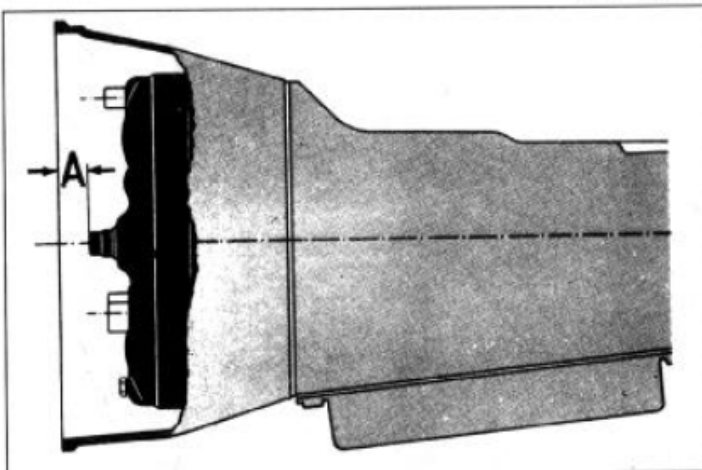

Fig. 3 With torque converter correctly fitted, dimension A should be 10.0 mm (0.4 in) minimum (Sec 3)
- 22 Refitting is a reversal of removal, but first make sure that the torque converter is fully engaged with the oil pump by checking the distance shown in Fig. 3. The torque converter drain plug must be aligned with the cut-out in the driveplate. Adjust the downshift cable as described in Section 6, and the selector rod as described in Section 7. Check, and if necessary top up, the transmission fluid level as described in Section 2.